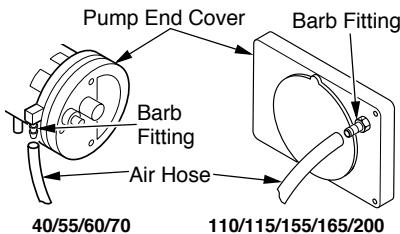

Figure 27 - Air Hose to Barb Fitting
4. Inspect fuel and air line hoses for cracks and/or holes. If fuel line hose is damaged, disconnect from nozzle adapter (see Figure 21 or 22, page 12, or Figure 25, page 13) and from fuel filter (see *Fuel Filter*, pages 10 and 11). If air line hose is damaged, disconnect from nozzle adapter (see Figure 21 or 22, page 12, or Figure 25, page 13) and from barb fitting on pump end cover (see Figure 27).
5. Install new air and/or fuel line. Attach one end of air line hose to barb fitting on pump end cover (see Figure 27) and the other end to nozzle adapter (see Figure 21 or 22, page 12, or Figure 25, page 13). Attach one end of fuel line hose to fuel filter (see *Fuel Filter*, pages 10 and 11) and the other end to nozzle adapter (see Figure 21 or 22, page 12, or Figure 25, page 13).